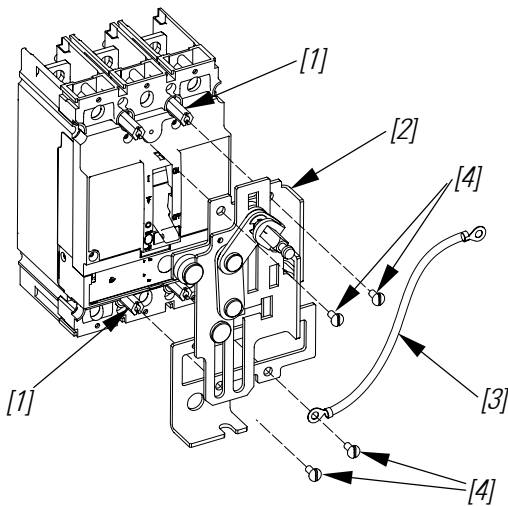

Figure 4. Mounting the mechanism base assembly onto the breaker.
3. Place the base-crank assembly [2] on the breaker, as illustrated in Figure 4. Insert four #10-32 x 1/2" screws [4] through the mounting holes in the base and into the heads of the breaker mounting screws [1], with the grounding wire [3] attached to one of the screws. Tighten the screws to 27 - 32 in-lb. Secure the other end of the grounding wire to a suitable ground location.